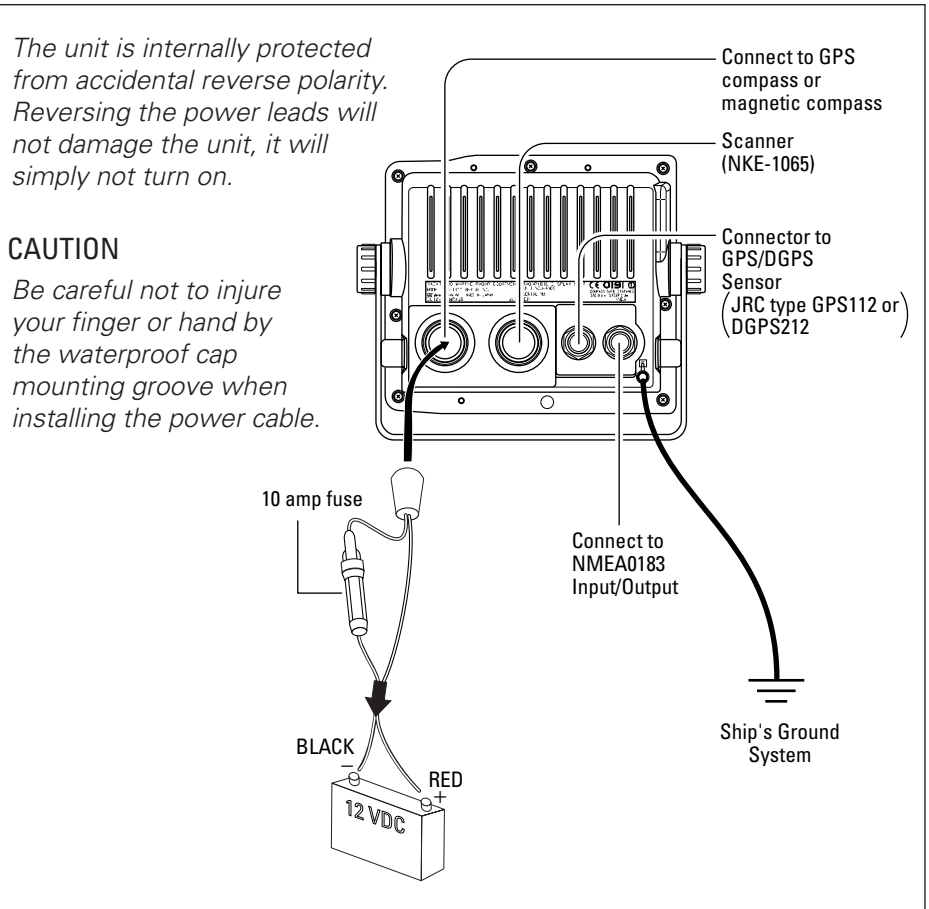

Figure 2-8
- Connect the RED wire to the positive (+) source terminal as shown in Figure 2-8.
- Connect the BLACK wire to the negative (-) source terminal as shown in Figure 2-8.